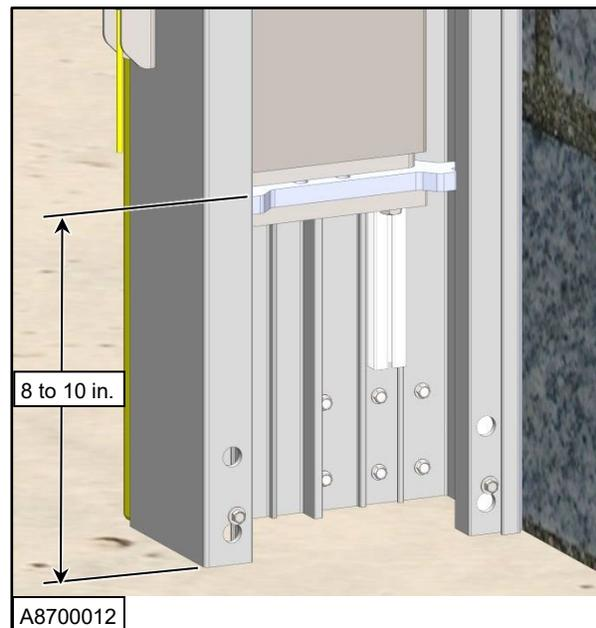

Figure 29
5. Measure the distance between the bottom of each counterweight and the base of the side column. The distance between each counterweight and associated base plate should be approx. 8 to 10 in. (See Figure 29)